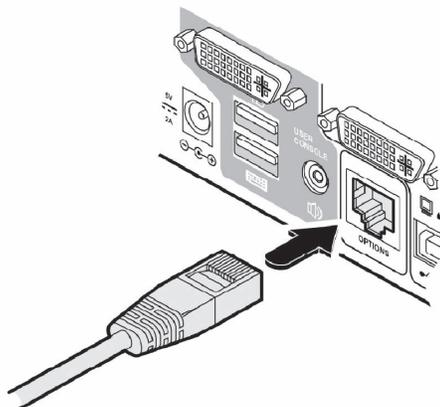

FIGURE 3-16. CONNECTING A COMPUTER REMOTE CONTROL
1. Insert the 8p8c or 10p10c connector of the cable to the **OPTIONS** port on the rear panel of the unit. See Figure 3-16.